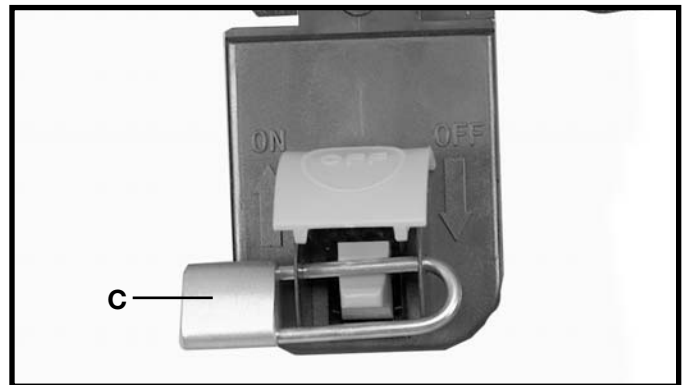

Fig. 96
IMPORTANT: When the machine is not in use, the switch should be locked in the "OFF" position to prevent unauthorized use, using a padlock (C) Fig. 96 with a 3/16" diameter shackle.